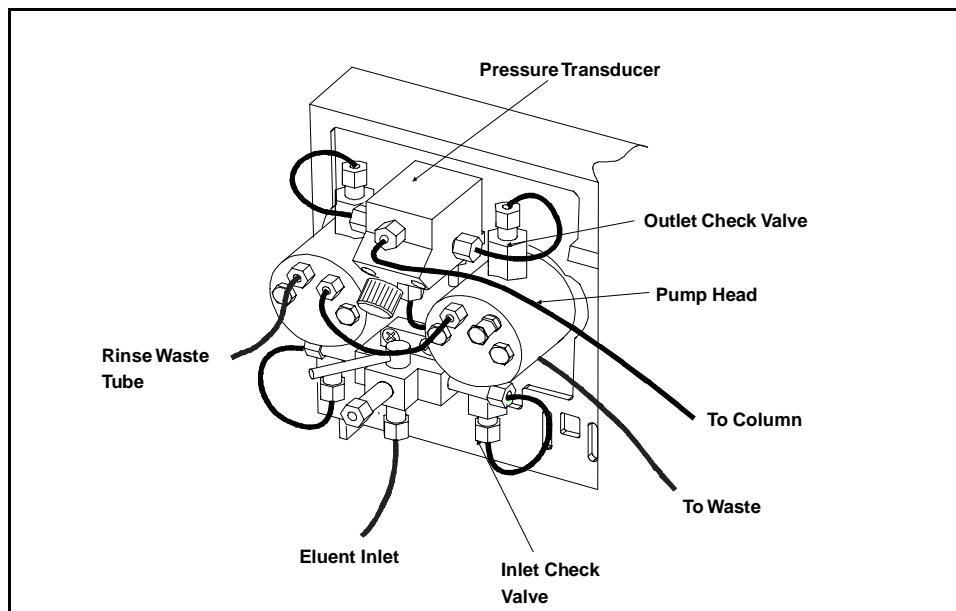

Figure 5-1. Pump Heads and Liquid Lines (PEEK)
3. Disconnect the tube fittings from the inlet and outlet check valve housings (see Figures 5-1 and 5-2).
2. Disconnect the tube fittings from the pressure transducer and the inlet check valve (see Figures 5-1 and 5-2).
2. Disconnect the liquid lines between the pressure transducer housing and the check valve housings (see Figure 5-1 and 5-2).